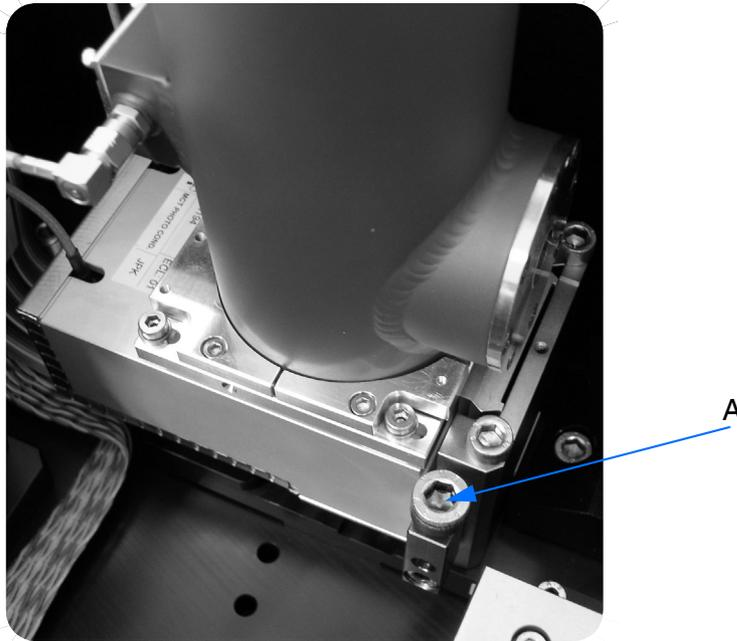

Figure 28: IFS 125HR - Detector mounted
- 3 Loosen the M6 allen locking screw (A in figure 28) that secures the detector, by using a hex wrench. Depending on which detector you want to remove, the allen screw is on the left or right side of the detector.